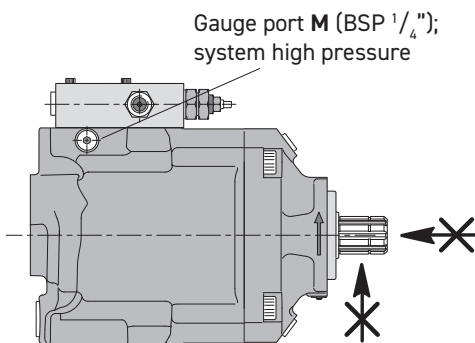

Fig. 7. Usually, no external radial and/or axial forces are allowed on the VP1 shaft
- Make sure 'max peak pressure 420 bar', as measured in gauge port M on pump (see fig. 7), is not exceeded.